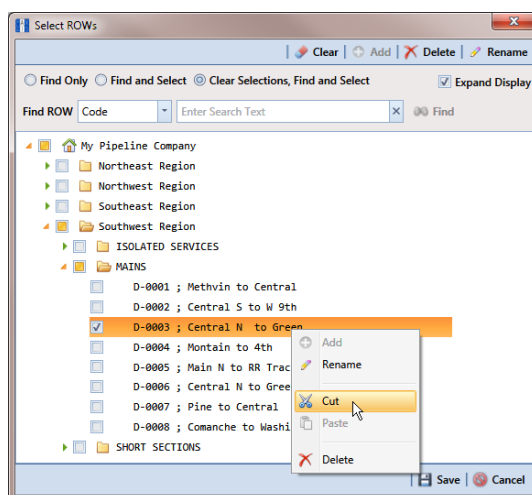

Figure 4-6. Move Pipeline
- 1 If the *Select ROWs* window is not open, click **File > Select ROWs** and then select a pipeline in the hierarchy (Figure 4-6).
- 2 To move the selected pipeline to a different hierarchy folder, right-click the pipeline and select **Cut** in the shortcut menu that opens. Right-click the hierarchy folder you want to move the pipeline to and then select **Paste** in the shortcut menu that opens (Figure 4-6).